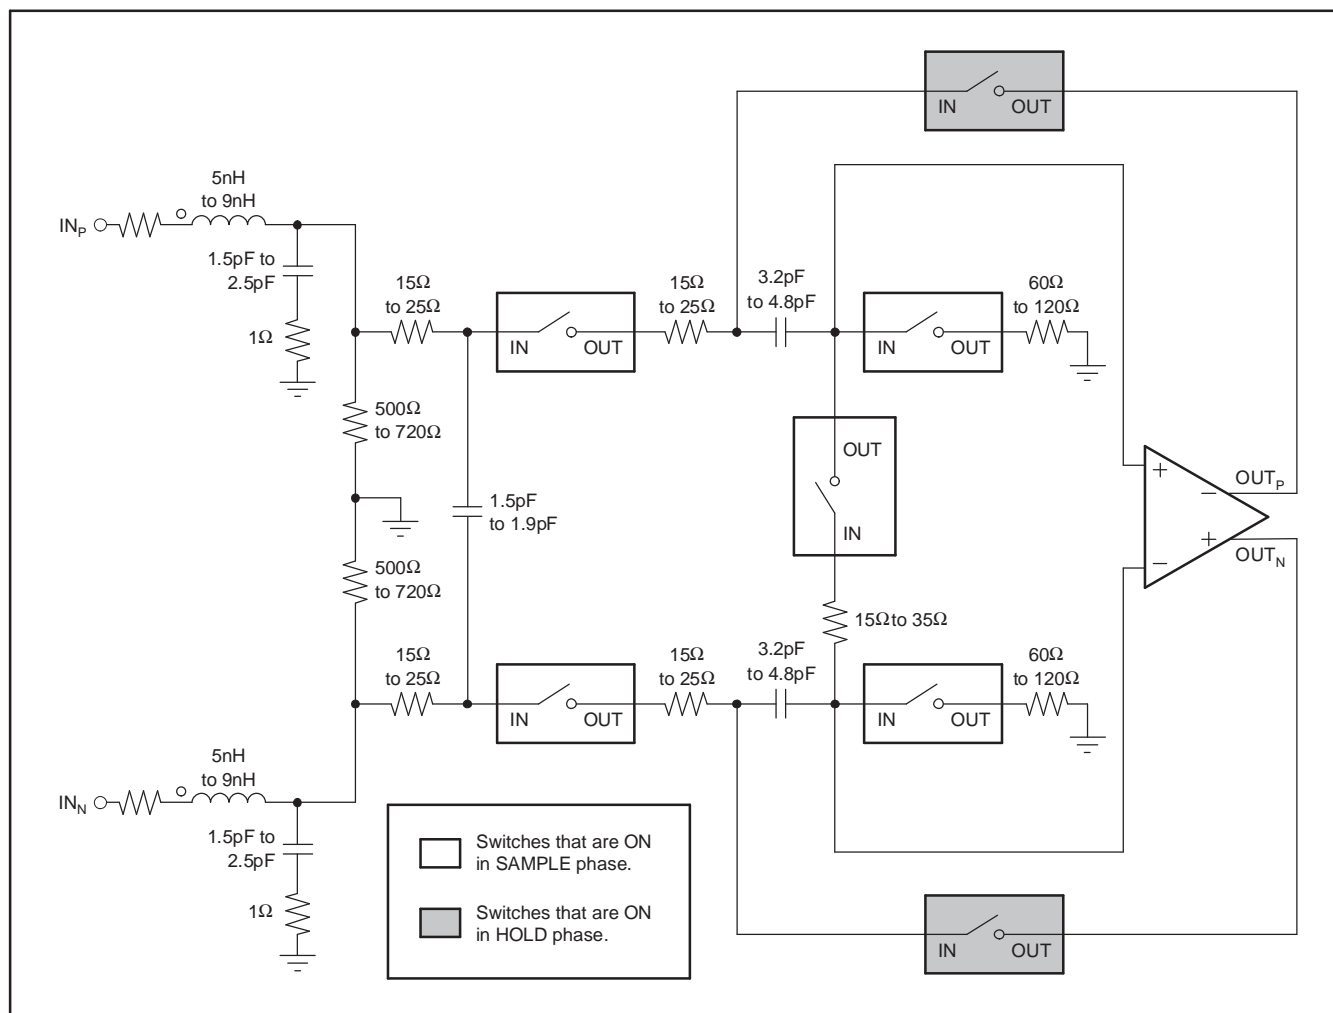

Figure 14. Overall Structure of the Sample-and-Hold Circuit
Figure 14 shows a detailed RLC model of the sample-and-hold circuit. The circuit operates in two phases. In the sample phase, the input is sampled on two capacitors that are nominally 4pF. The sampling circuit consists of a low-pass RC filter at the input to filter out noise components that might be differentially coupled on the input pins. The next phase is the hold phase wherein the voltage sampled on the capacitors is transferred (using the amplifier) to a subsequent pipeline ADC stage.
- Changed Figure 14. 16